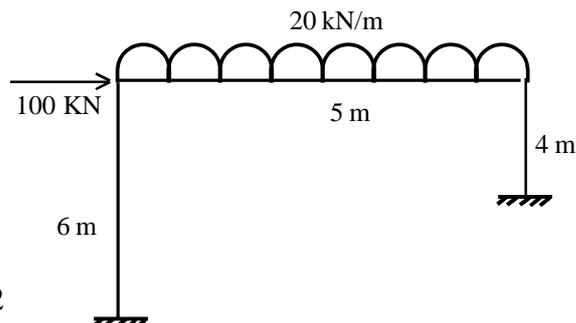

Figure. 2
10. Analyse the portal frame shown in Figure.2 by flexibility method and draw the bending moment diagram.